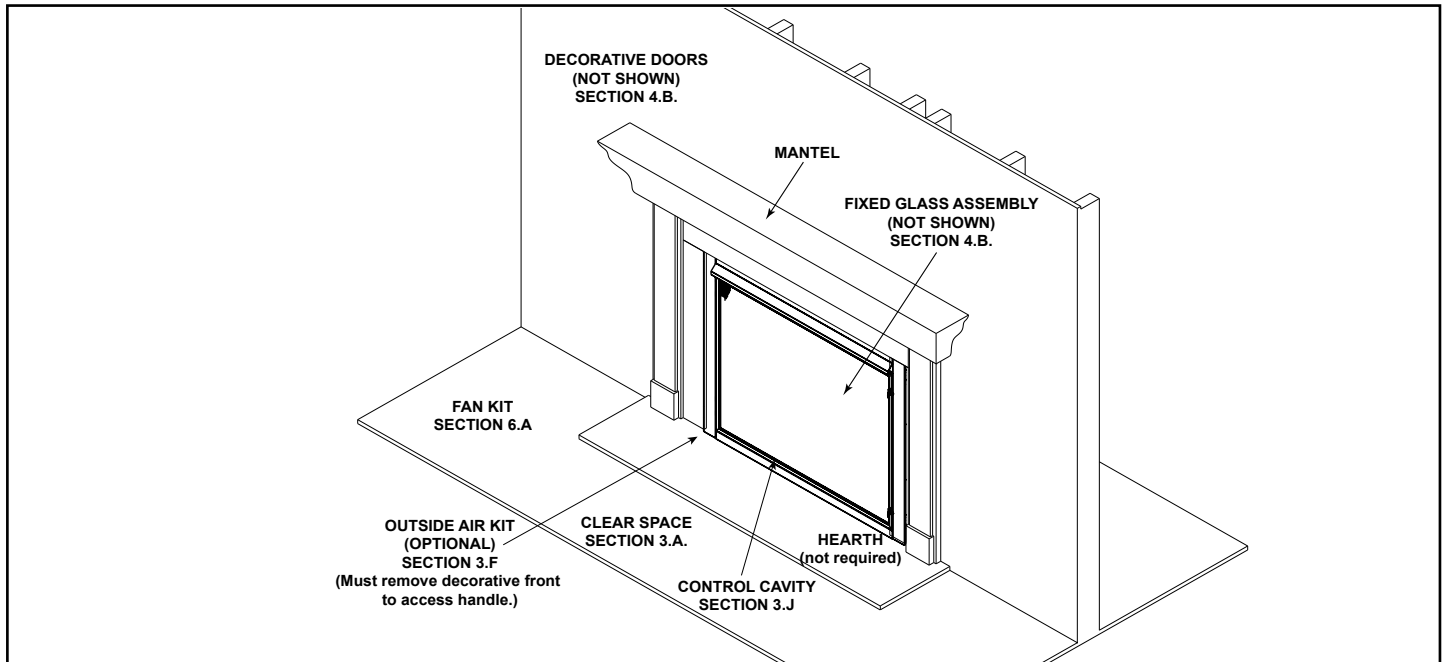

Figure 3.2 General Operating Parts
Figure 3.2 references the general operating parts of the appliance and the section of this manual in which they are discussed.
- Refer to Figure 3.2 for location of control.